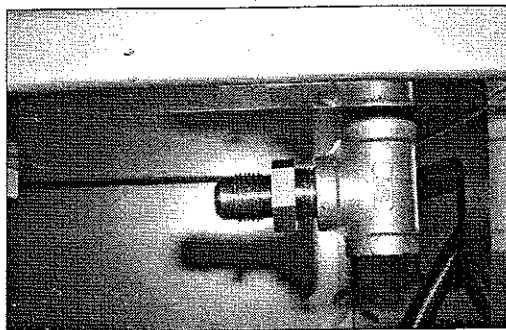

Fig 19
2. Attach the Connector-3/8" NPT x 3/8" UNF to the tee fitting as shown. Tighten with wrench. (See Fig. 19)